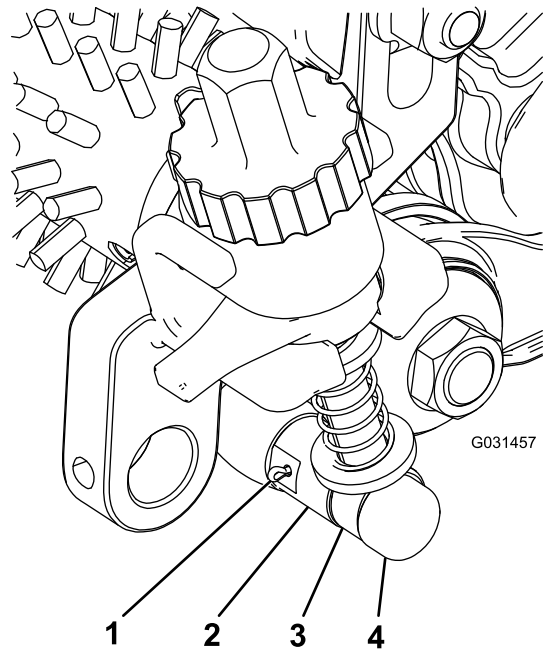

Figure 20
4. Align the adjuster-arm assembly rod near the idler assembly with the adjuster collar on the idler assembly and secure it with an adjuster pin and cotter pin (Figure 20).